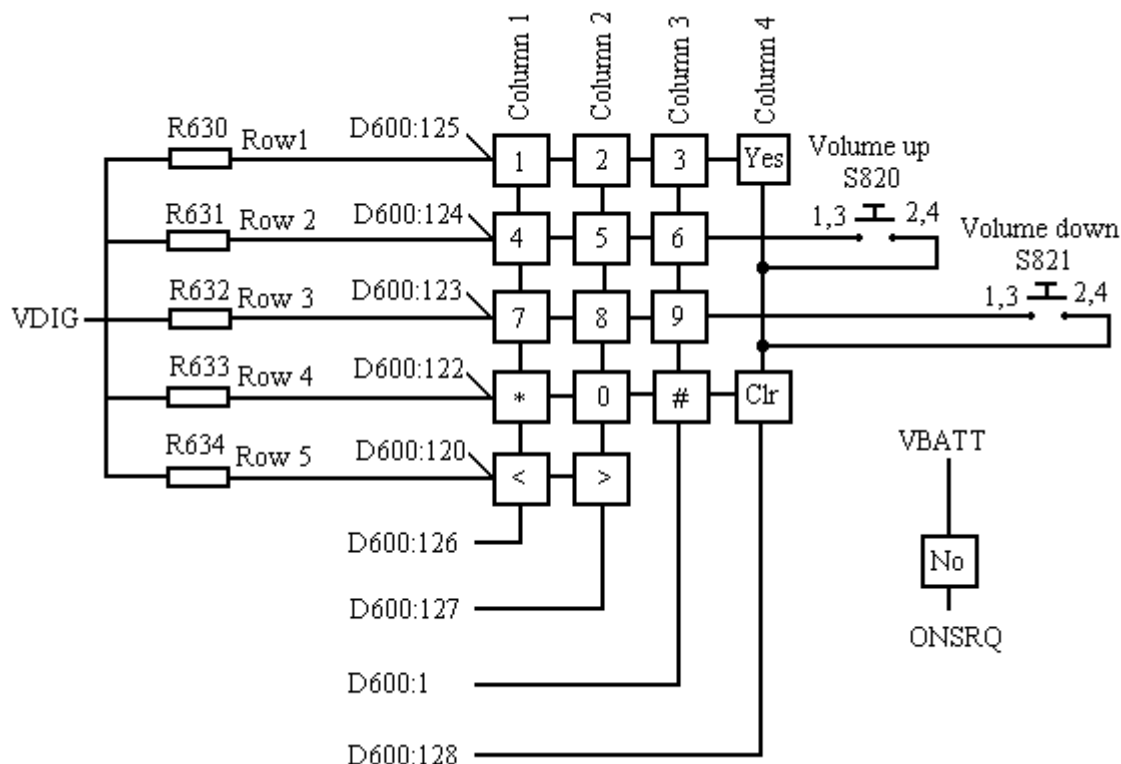

Fig. 7.4
Schematic of the keyboard functions is shown in fig. 7.4.
* If the VDIG voltage is missing at a part of a row (as described in fig. 7.4) there's a foil damage and the phone is to be discarded. This can easily be verified by measuring the resistance from the marked side of a functional keypad to the marked side of a non-functional keypad (~ 0